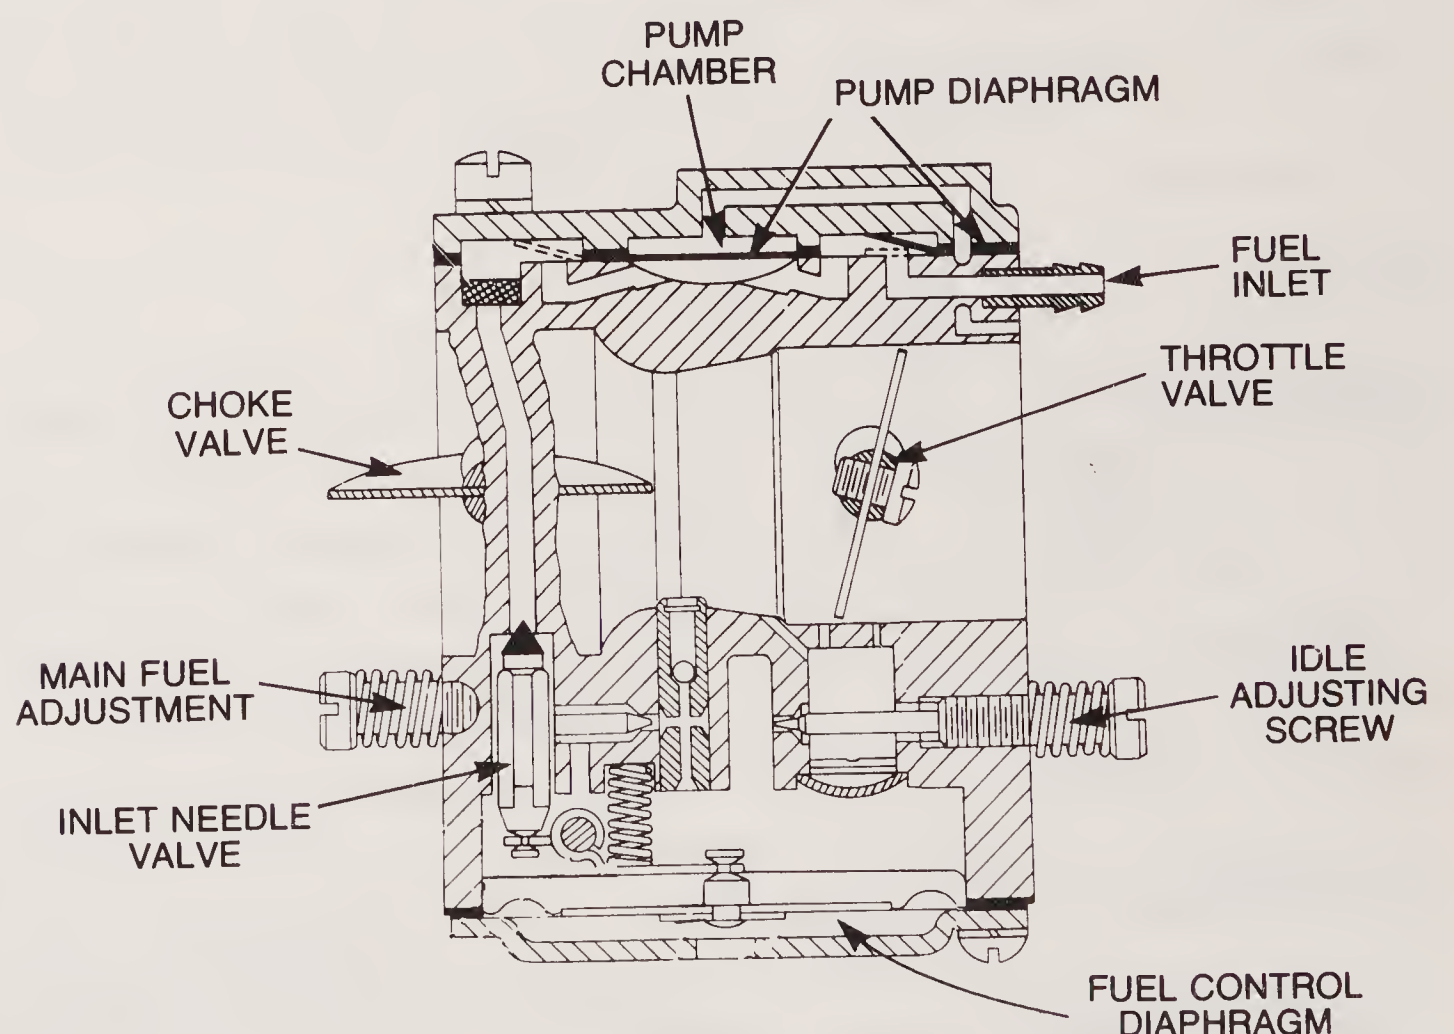

FIGURE 8-9
2. Most *diaphragm carburetors* are constructed so they can operate in any position. This type of carburetor must be used on engines that power chain saws, grass cutters, and other machines that wind up in various positions. Figure 8-9 is a schematic of the diaphragm-type of carburetor.
Normally three adjustments can be made to most carburetors: (1) the idle speed, (2) the idle mixture, and (3) the main fuel (high-speed) adjustment. Figures 8-9, 8-10, 8-12, and 8-14 show the adjustments on different carburetors. The engine should be running and at normal operating temperature when you make these adjustments.